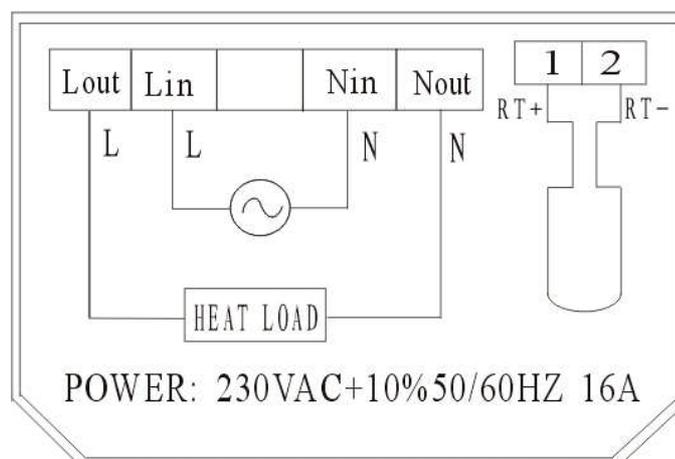

Figure 4
2. Connect wires beneath terminal screws on power base using appropriate wiring diagram. See figure 4
3. The floor sensor cable must be attached to the terminal block in heating type F or RF (see figure 4), otherwise the thermostat will shut down the heating output and the display will show **E2** to indicate a floor sensor problem.